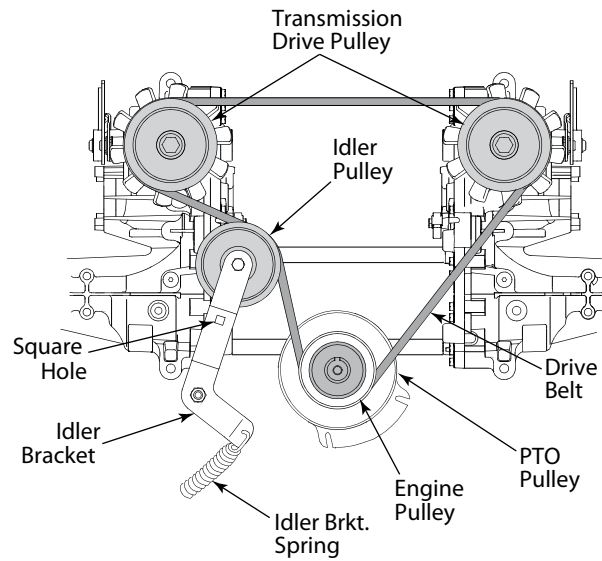

Figure 7-8
- From beneath the rear of the tractor, insert a 3/8 inch drive ratchet into the square hole of the drive idler bracket. See Figure 7-8.